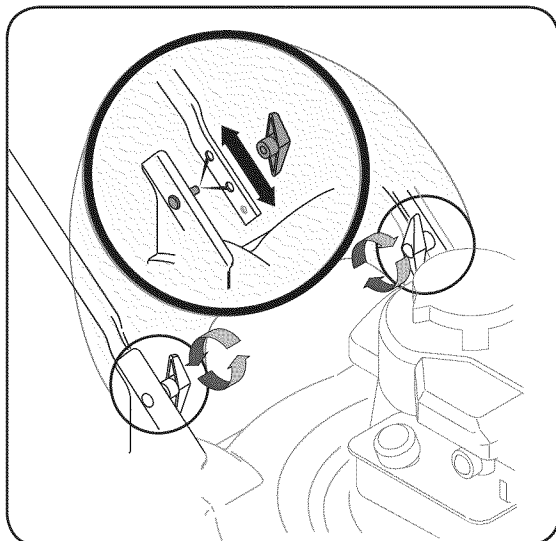

Figure 3
3. If satisfied with height of handle, tighten wing nuts (star knobs) at the ends of the lower handle shown in Figure 3. For convenience of operating, you may adjust the handle height as follows:
- a. Remove the wing nuts (star knobs) shown in Figure 3 and remove the lower handle.
- b. Position each handle bracket stud into the top hole in the lower handle. See Figure 3 inset.